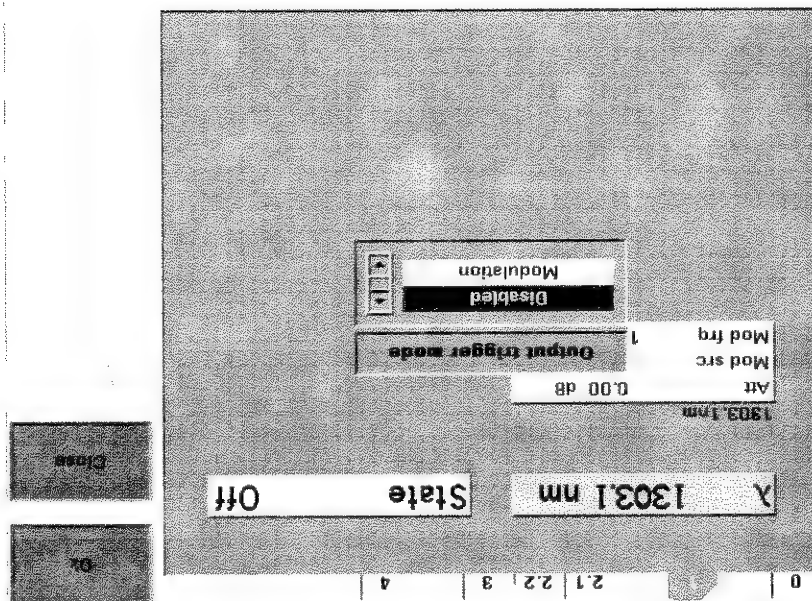

Figure 60 Output Trigger Mode
- 3 Move to *<Output Trigger Mode>*, by using the cursor key, and press *Enter*. You will see the screen in Figure 60.